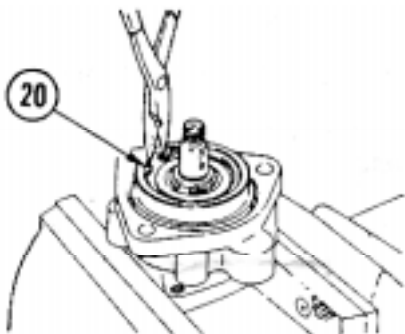

Figure 3.
7. Remove rotor (16) and vanes (17) from cam (18).
8. Remove snap ring (20) with snap ring pliers as shown in Figure 3.
9. Remove front body (25) from vise.